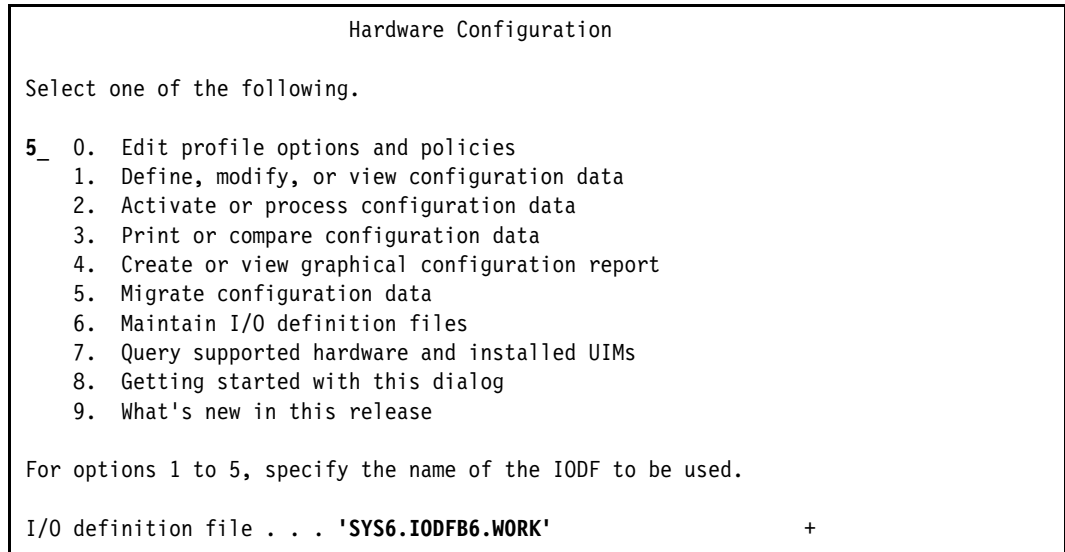

Figure 6-109 HCD - Hardware Configuration: migrate configuration data.
- From the HCD main panel, enter the work IODF name used. Select option **5. Migrate configuration data** (Figure 6-109).